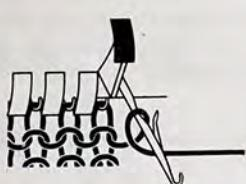

Fig. 47
- Increasing one stitch at right. Lock at right. Increase one stitch at right the same way as you have done at left, fig. 47. Knit one row.